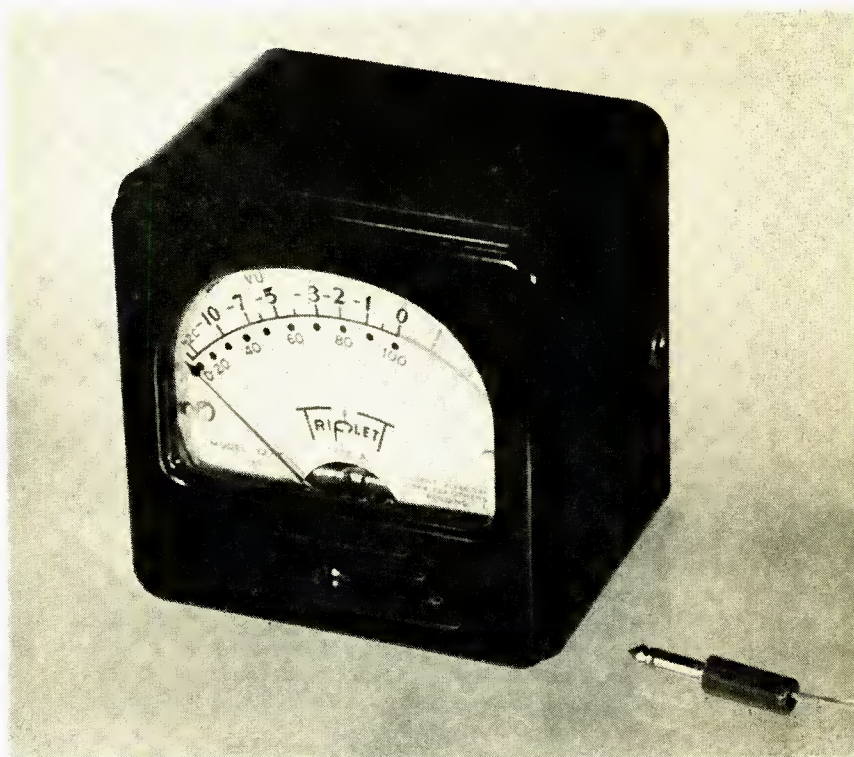

Fig. 1. A typical modern VU meter. Most meter manufacturers make one or more models of VU meters.
**SCALE:** Two standard scales are specified of which scale A is pictured in Fig. 1. Scale B has the 0-100 markings on the top.